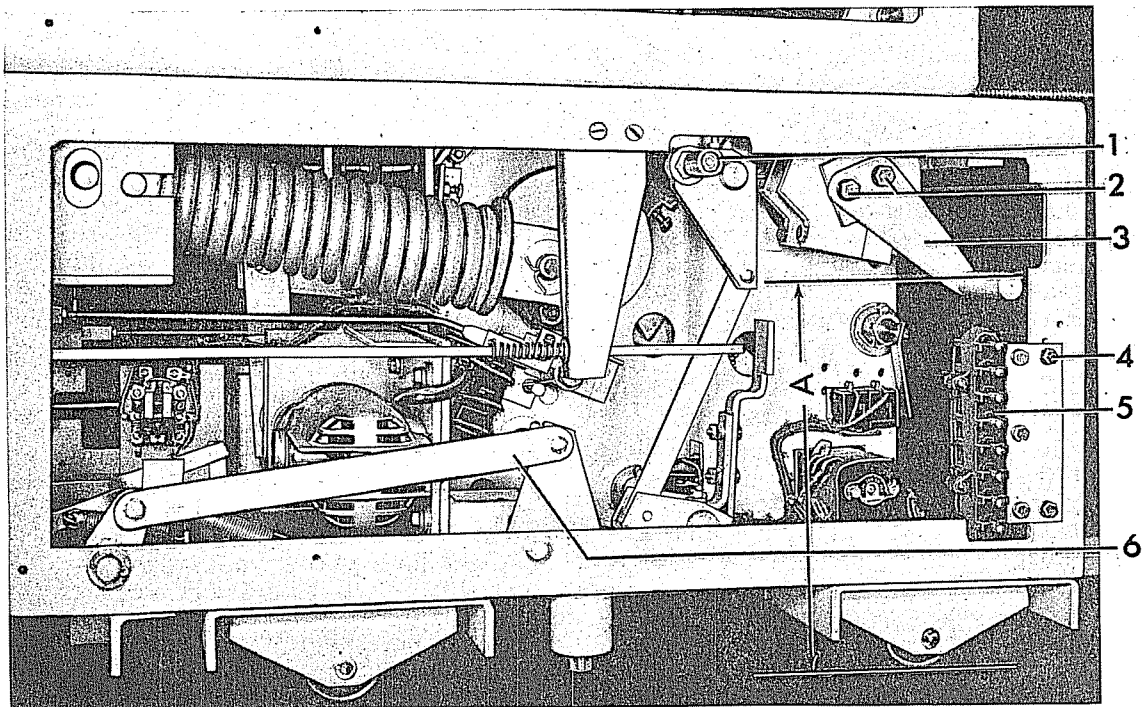

Fig. 6 (8037376) Auxiliary Switch Operator
An auxiliary switch operator (3) Figure 6 can be provided when required to operate a stationary auxiliary switch mounted in the metal clad unit.